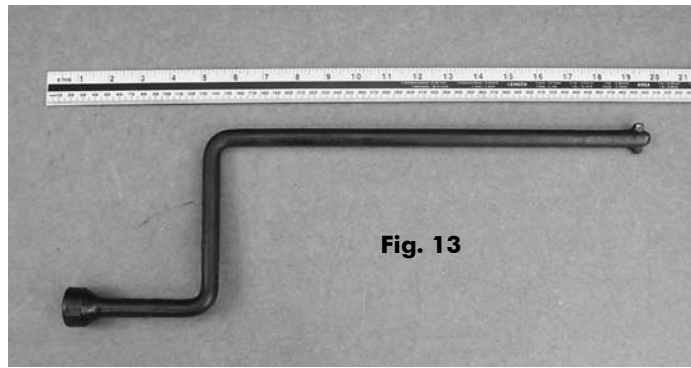

Fig. 13
"So what did Model "Y" owners use for removing wheel nuts?" you may ask. Well, it was Part No. 'Y-17036' according to both the 1933 list and Form E717, the former describing it as a 'Starting and wheel crank wrench' and the latter list as a 'Crank (starting) & wheel nut wrench' incorporated a wrench (socket) in the starting crank handle (Fig.13). It was replaced by 'YE-17061' in the 1937 and 1952 lists, and I suspect it is the same tool. However, '20E-17036', although bearing the same serial number, appeared in place of 'Y-17036' on Form E717E, and was purely a starting handle of a unique, extended "Z" shape supplied only to the "De Luxe" (Model "C" or "CX"). Tony's example can be seen towards the top of the picture of his tool kit (Fig. 2). It was replaced by 'CE-17036-A' (1934/35) or 'CE-17036-B' (1935/37) in my 1952 Parts List (N.B. for ease of presentation of the table, this part was not included by me in Fig. 1). Quite what is different about '20E-17036' compared to its (presumably) later replacements I have yet to establish, but I suspect that 'CE-17036-A' may be a little shorter in the shank than 'CE-17036-B'. This tool
13) Image Fig.13 Y starting handle.2.jpg
Caption:- " **Fig. 13.** "